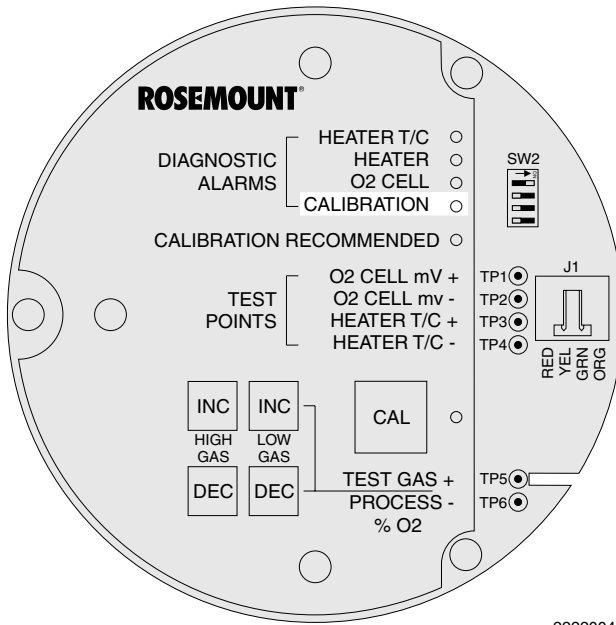

Figure 5-15. Fault 15, Last Calibration Failed
o. **Fault 15, Last Calibration Failed.** The CALIBRATION LED flashes three times, pauses for three seconds, and repeats (Figure 5-15).
1. If no alarms are indicated on the keypad or in the HART/AMS STATUS sub-menu, the calibration did not fail because of an Oxymitter 4000 fault. Therefore, a calibration gas flow problem occurred. Refer to Table 5-2 or Figure 5-15 to troubleshoot the SPS 4000.
- (b) Perform another calibration and monitor the process. If the calibration fails before both calibration gases finish sequencing, a gas flow problem exists. Refer to Table 5-2 or Figure 5-15 to troubleshoot the SPS 4000.